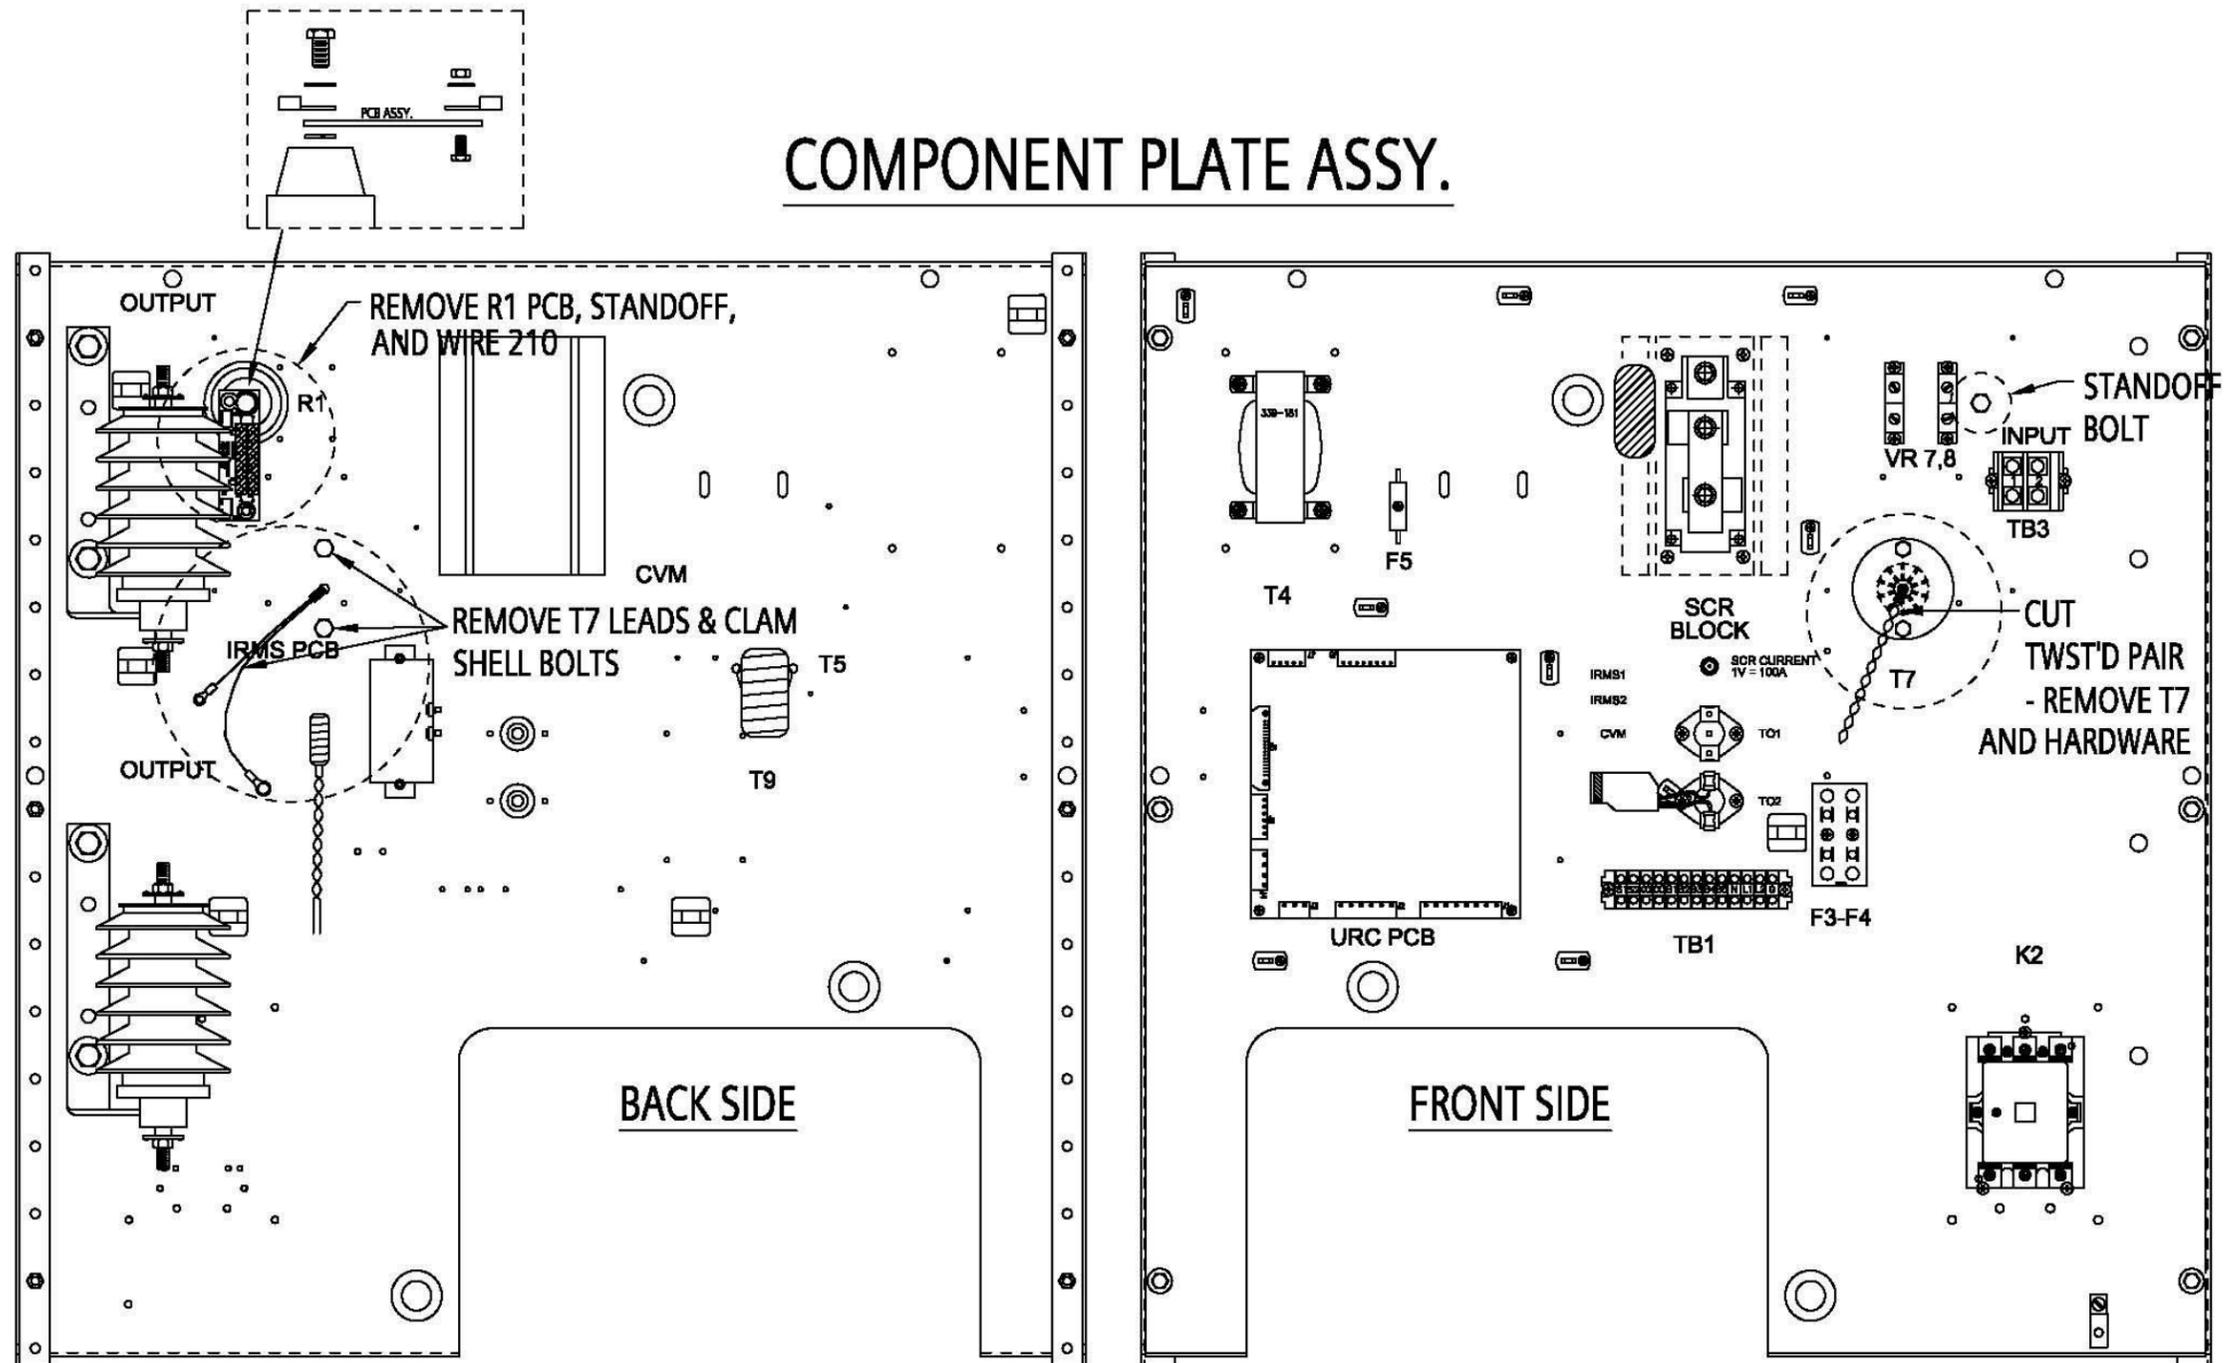
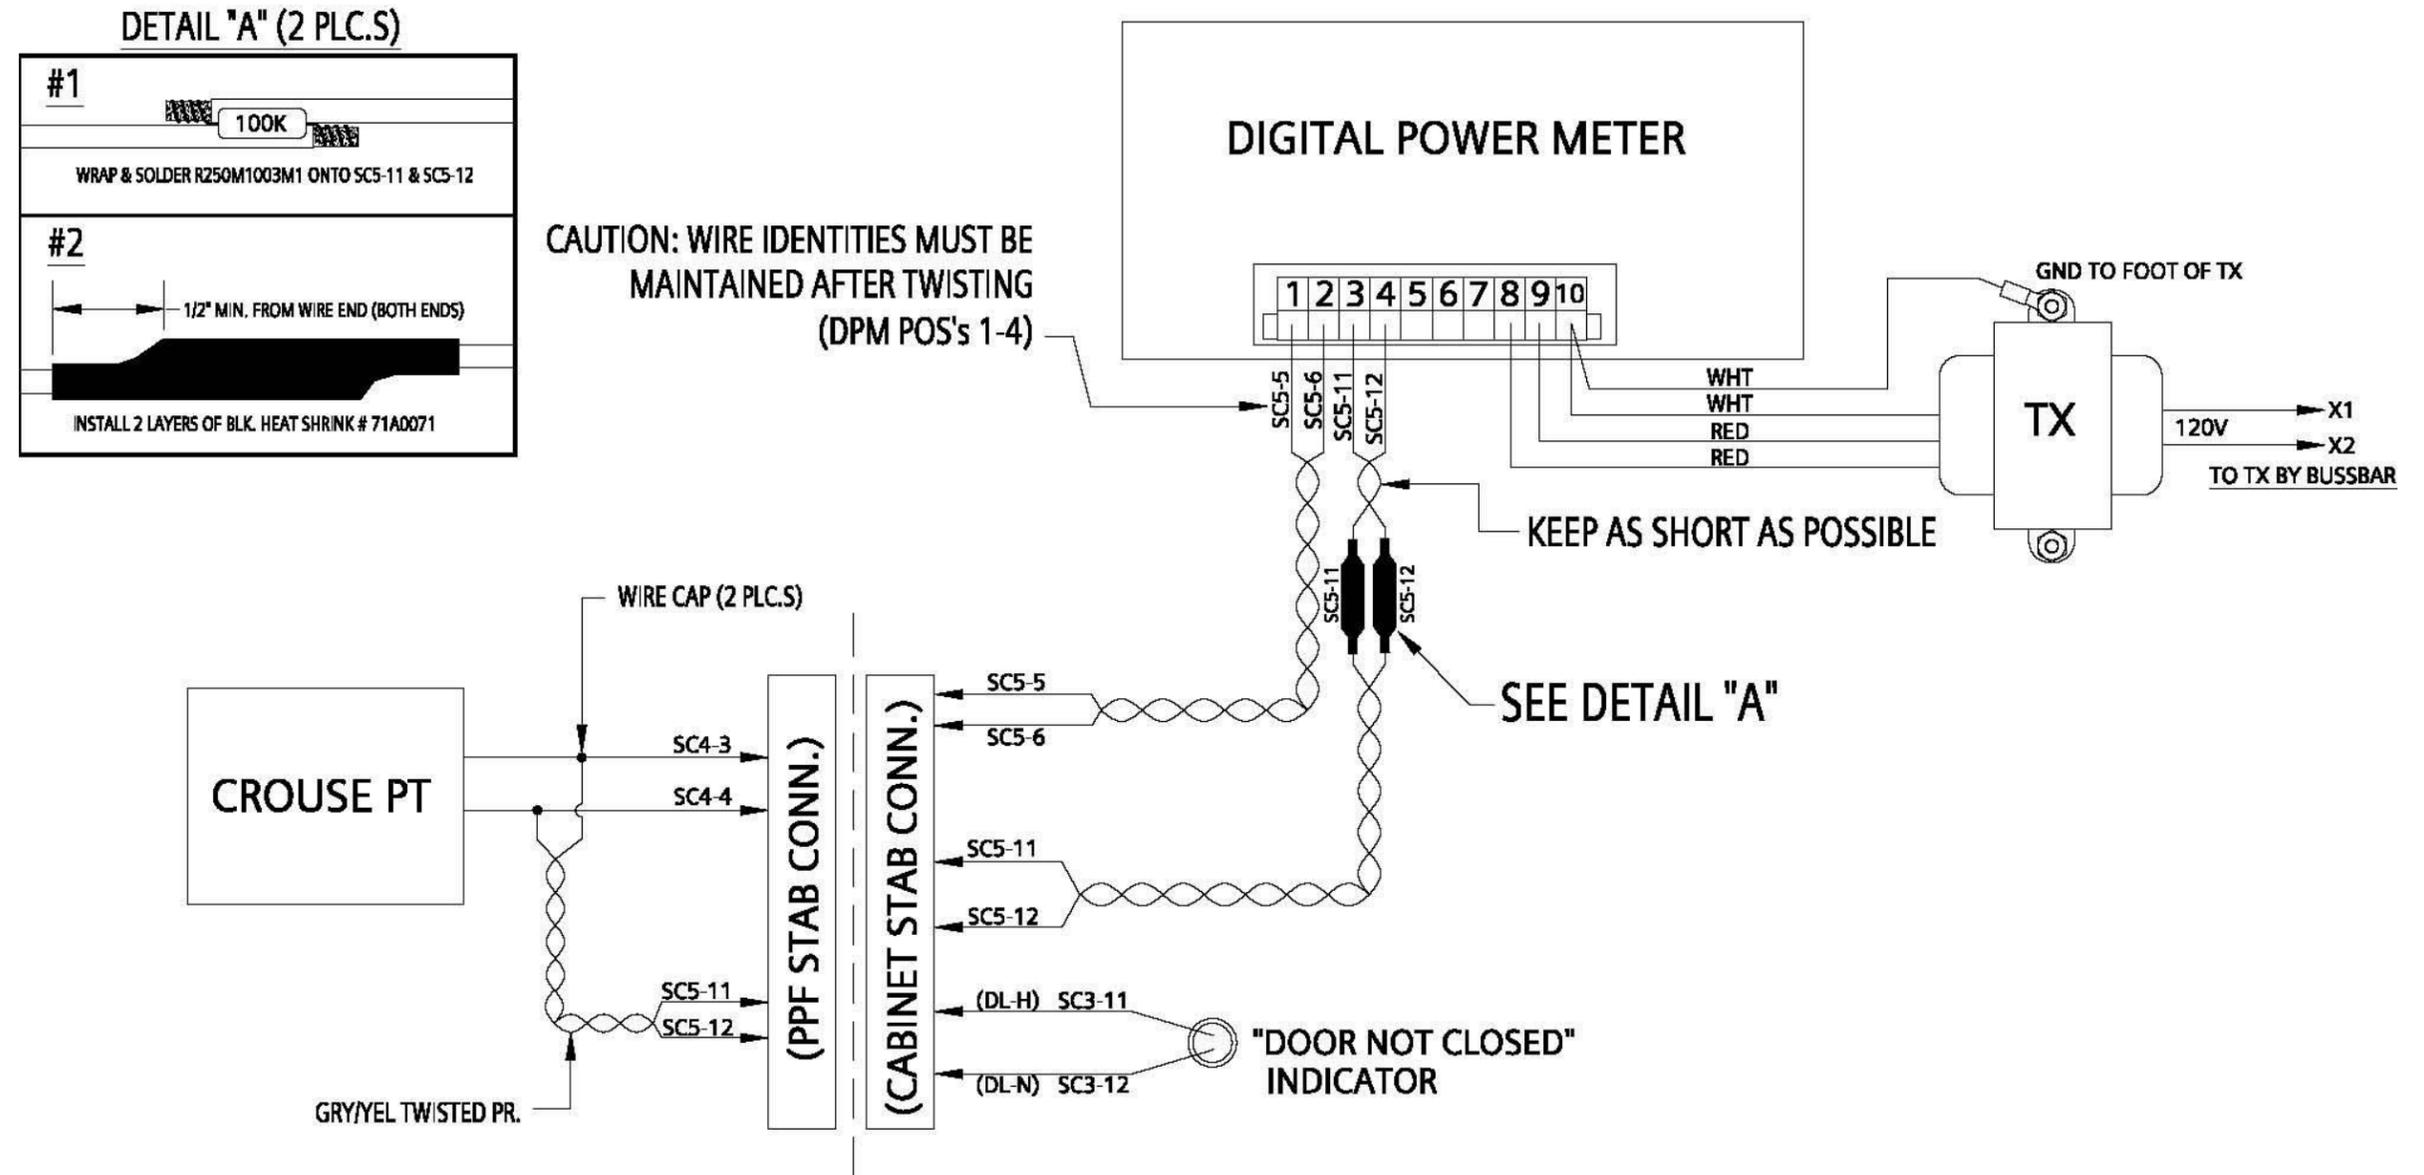

Figure1 Control Panel Assembly
Figure 2 Wiring Schematic
Review Figure 1 and Figure 2 and then proceed as follows:
Review Figure 1, Figure 2, and Figure 3 then proceed as follows:
- 1) Add resistors (R250M1003M1) in series to DPM pins 3 & 4 per schematic (Figure 2) using 18awg wire (89A0182/9). Keep resistors as close as possible to the Digital Power Meter.